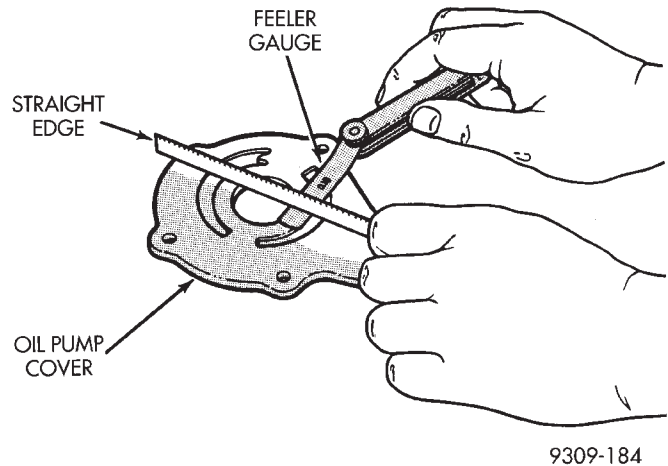

Fig. 118 Checking Oil Pump Cover Flatness
(1) Clean all parts thoroughly. Mating surface of the oil pump housing should be smooth. If the pump cover is scratched or grooved the oil pump assembly should be replaced.
(2) Lay a straight edge across the pump cover surface (Fig. 118). If a 0.025 mm (0.001 in.) feeler gauge can be inserted between the cover and the straight edge the oil pump assembly should be replaced.